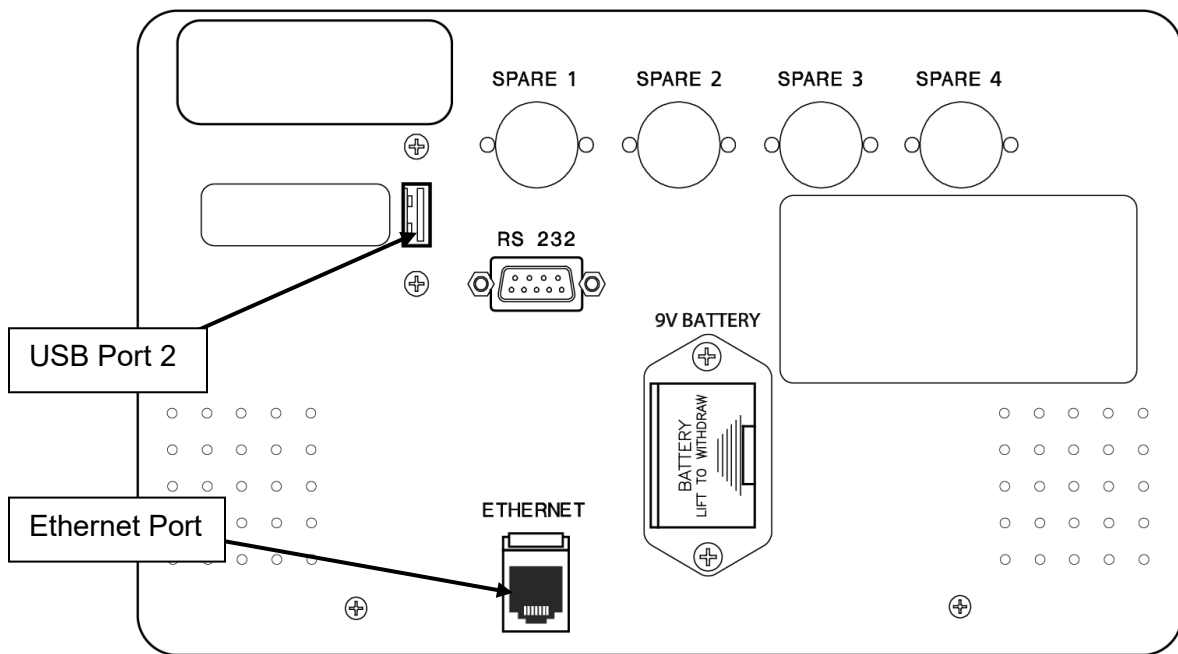

Figure 107 – CDX PC Access on the Back Panel
USB port 2 is located on the back panel of the machine (see Figure 107). It is used to access the CDX system. Additionally, the back panel features an Ethernet port for the CDX PC.
- Booting from a USB drive, with the operating system pre-installed, connected to the USB port on the back panel (see Figure 107).